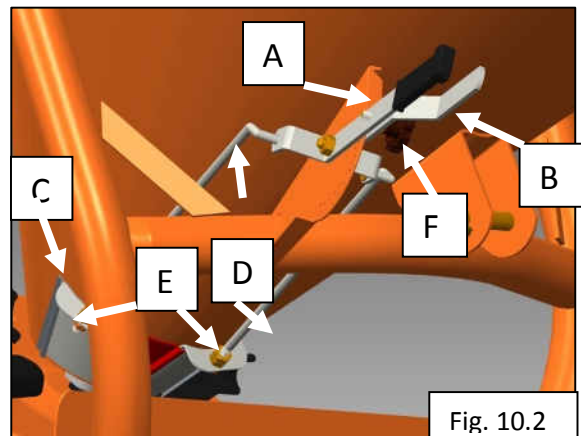
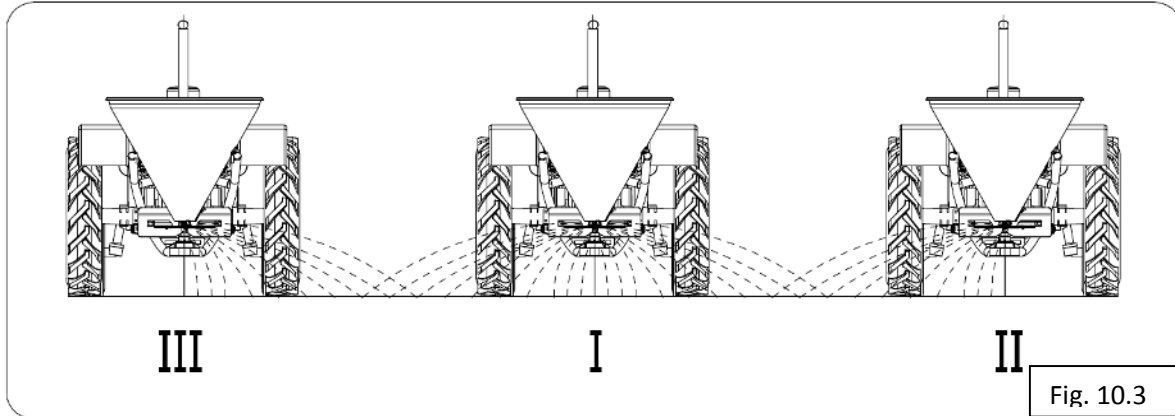
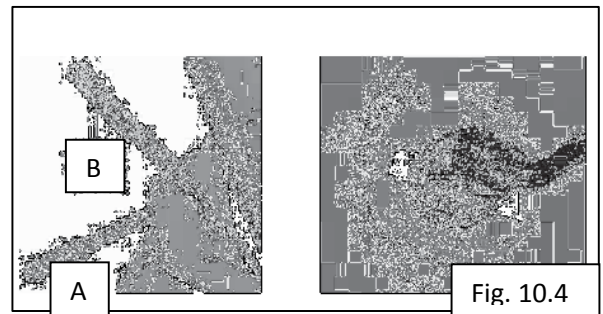

Fig. 10.2
Fig. 10.3
Fig. 10.4
The fertilizer is guided through the two openings from the split hopper onto the spreading disc. This opening is adjusted with the lever A and B (Fig. 10.2)
Before any adjustment, check that by putting the lever in the fully closed position, the bottom opening of the hopper is fully closed by the shutter (C). If not then adjust the position of the shutter on the tie rod (D) through nut (E). (Fig. 10.2)
To distribute the fertilizer on both sides (I in Fig. 10.3) A and B levers must be in the same position, connected through grip handle C (Fig. 10.2)
In order to carry out the spreading only through the left side (II in Fig. 10.3), it is necessary to disconnect the two levers (A & B) by removing the grip handle F (Fig.10.4) to set the lever A in the desired position as recommended by the spreading chart and bring the lever B towards the upper position in order to close the hopper opening at right side.
In order to carry out the spreading through the right side only (III in Fig. 10.3) it is necessary to disconnect the two levers (A & B) by removing the grip handle F (Fig. 10.4), to set the lever B in the desired position as recommended by the spreading chart and bring the lever A towards the upper position in order to close the hopper opening at left side.